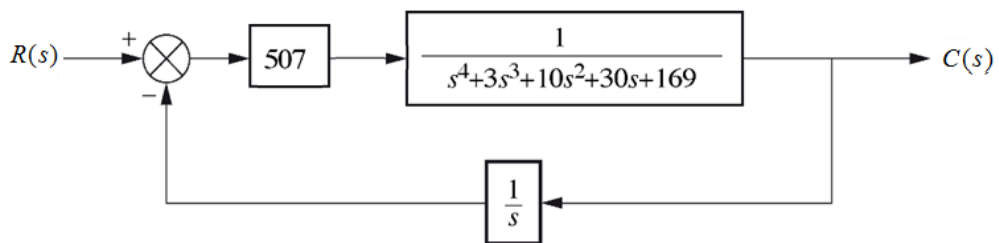

Figure 5: The negative feedback system
- (b) Referring to the negative feedback system shown in **Figure 5**, find the number of closed-loop poles located in the right half-plane, left half-plane, and on the $j\omega$ -axis by using Routh-Hurwitz criterion and comment on the system stability.